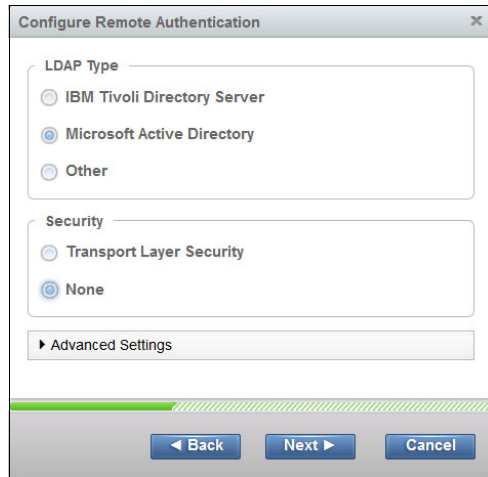

Figure 9-42 Remote Authentication wizard (step 2 of 4)
3. Select **Microsoft Active Directory**, and for Security, select **None** (Figure 9-42). Click **Advanced Settings** to expand it.